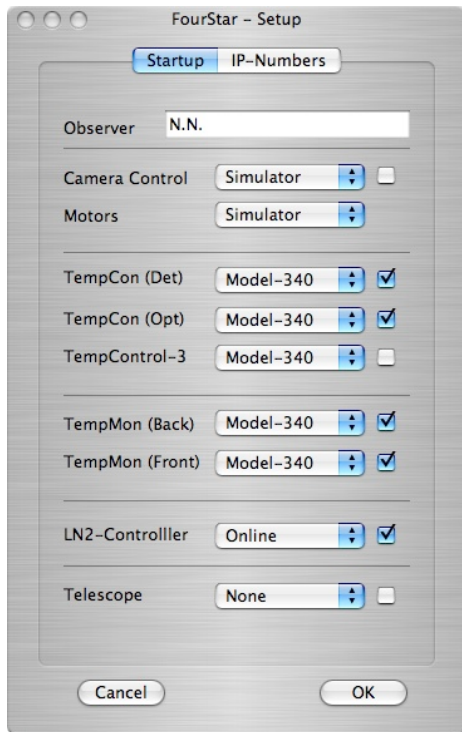

Fig. 11. Setup screen for cooldown.
8.3 Start up the FourStar software selecting just the Detector- and Optics-Temperature controllers, Front- and Back-Temperature monitors, and LN2-Controller as shown in Fig 11.